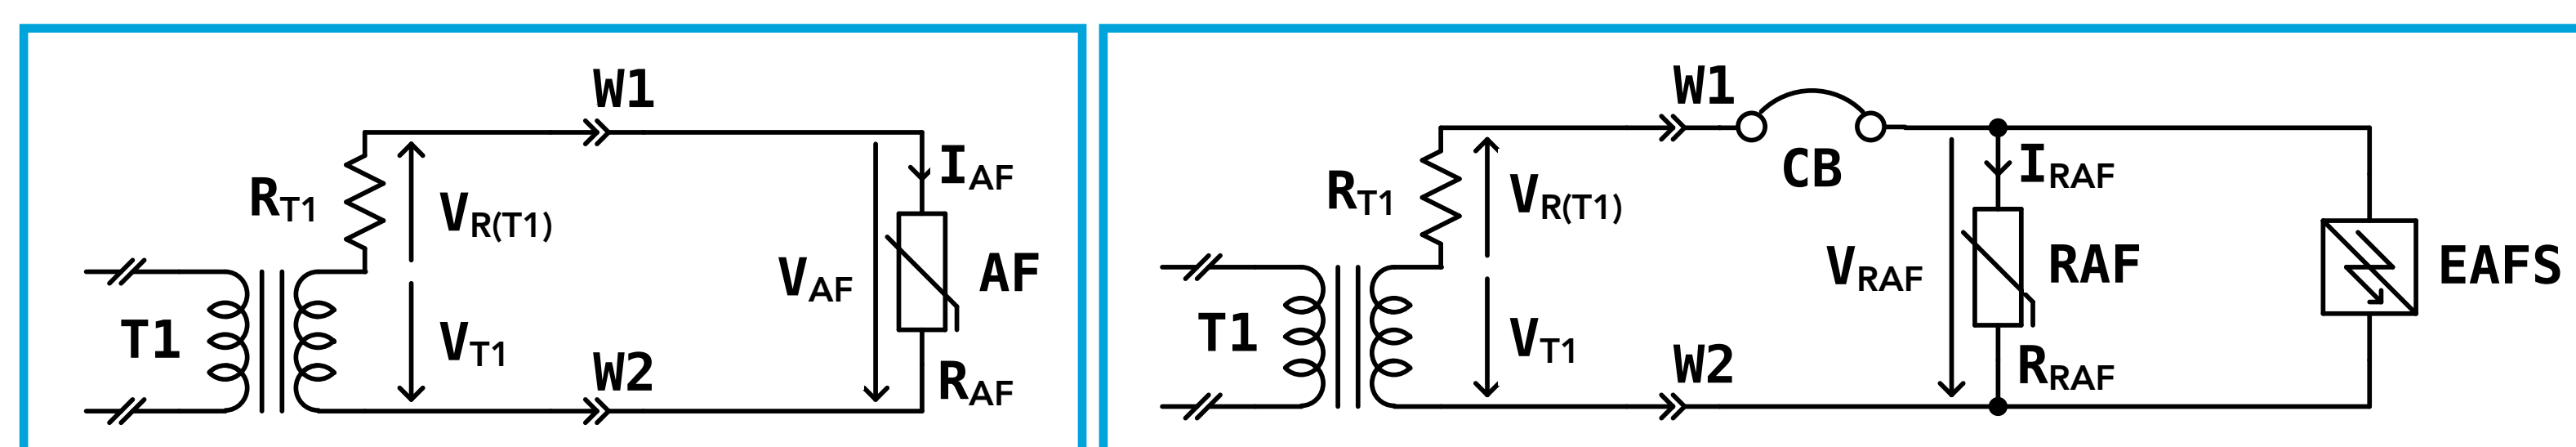

Fig. 1: Simplified, equivalent schematic diagram for an Arc-Flash (AF); see table I
Table I: Arc-Flash (AF) parameters, symbols, & definitions; example of calculated or measured values; see figure 1